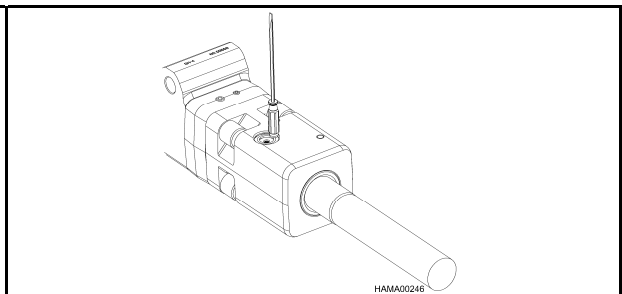

Figure 5
- b. Using the handle of the pliers or screwdriver, press the rest of the ring into the groove, see Figure 5.